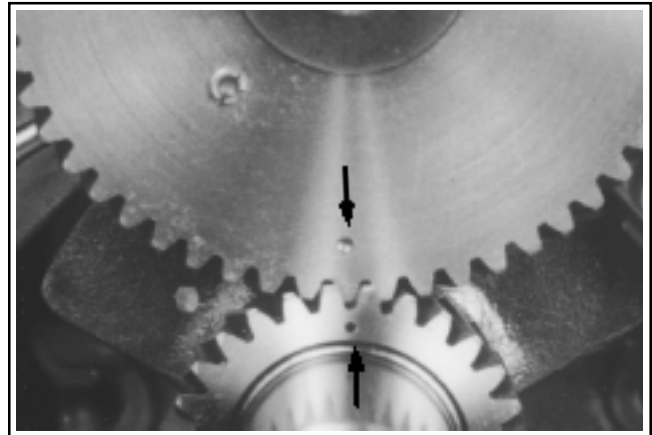

**Figure 11-9. Showing Cross Shaft Position.**
4. Turn the governor cross shaft to the left until the lower end of the shaft contacts the crankcase. Make sure the cross shaft stays in this position while installing the camshaft. See Figure 11-9.
4. Make sure end of governor cross shaft is lying against the bottom of cylinder 2 inside the crankcase. See Figure 11-9.